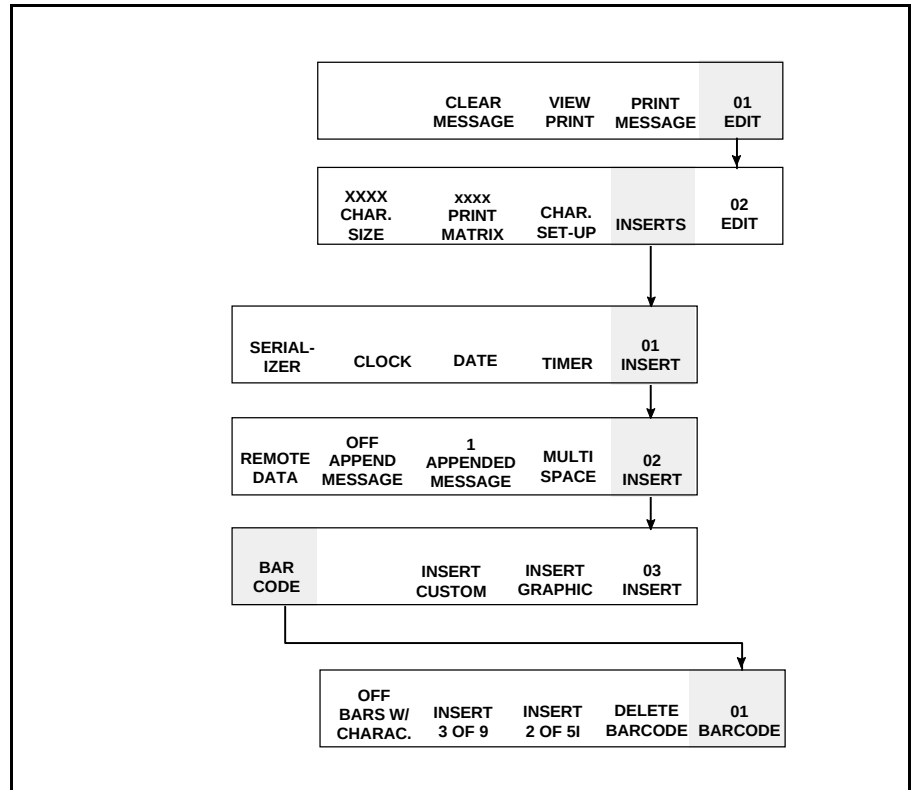

Figure 6-48. Accessing Frame <01 BARCODE>
1. Begin in Frame <01 BARCODE>. Refer to Figure 6-48.
NOTE: If you have selected a 16 x 24 print matrix, you have the option of printing human readable characters below the bar code. Refer to Figure 6-54. To select this option, press F1 to select <BARS W/ CHARAC.> while in Frame <01 BARCODE>. Refer to Figure 6-48. If this option is selected the code will be 16 drops high (instead of 24 drops high). This option can be used only if the 16 x 24 matrix has been selected.